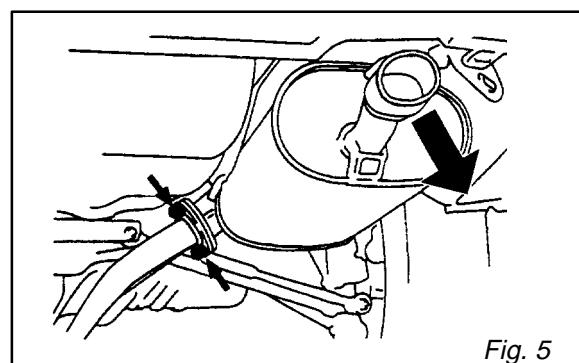

Fig. 5
2. Reposition muffler assembly by pulling down tail pipe assembly (as shown by large arrow in figure 5). While holding tail pipe down, retighten nuts as indicated by two red arrows.